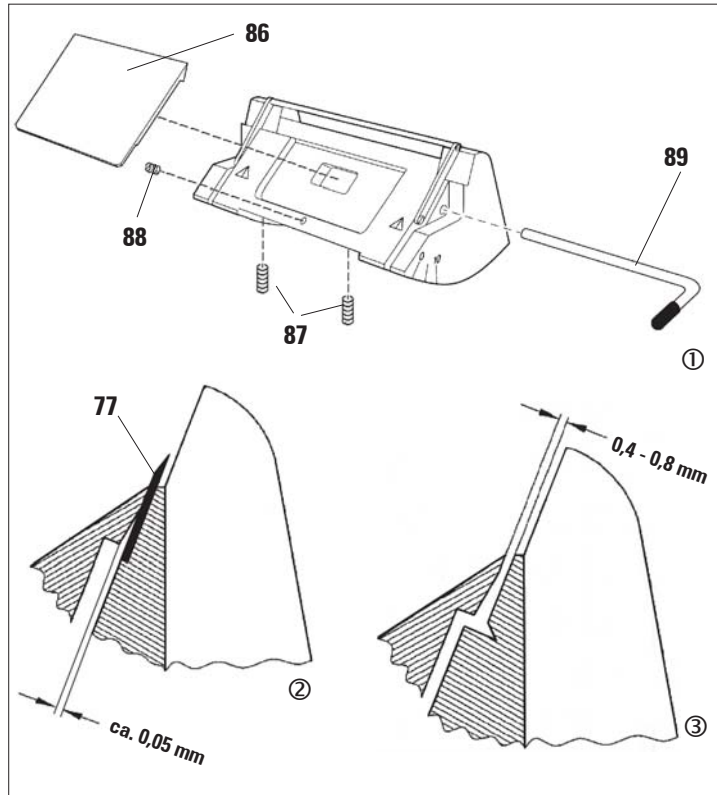

Fig. 31
- With screw (**88**) adjust pressure plate (**86**) so that only the upper edge of the pressure plate actually exerts pressure on the blade. A gap must remain visible (Fig. 31/②). A small screwdriver (ca. 3.0 x 70) is necessary for adjustment.
- When adjusting, ensure that a gap of approx. 0.4-0.8 mm remains between the two pressure plates with the clamping mechanism not yet tightened (Fig. 31/③).